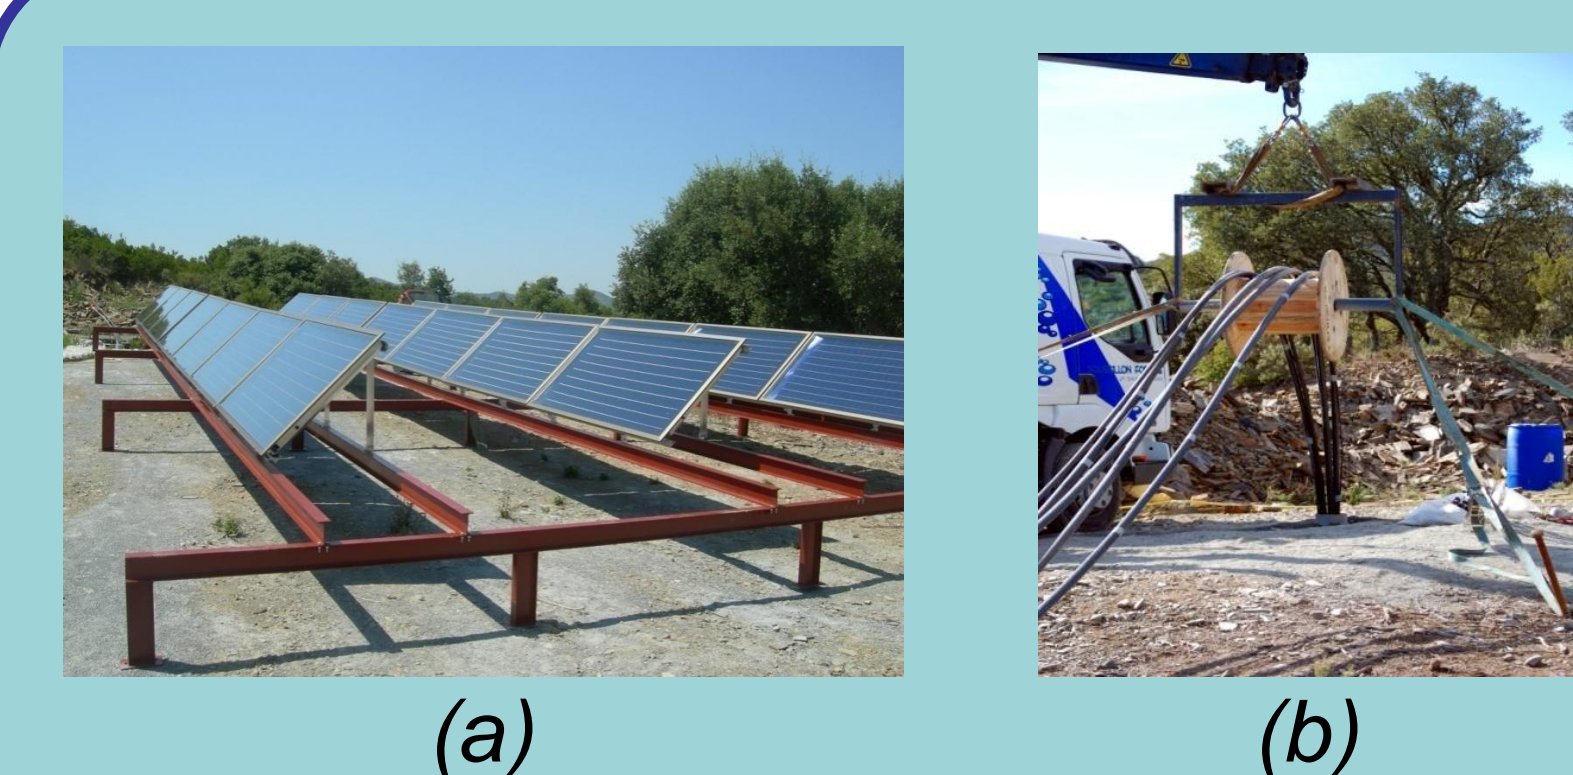

Fig. 1 : Experimental site : (a) Thermal solar panels, (b) Geothermal probes
- 42 m2 of solar panels collectors (Fig.1)